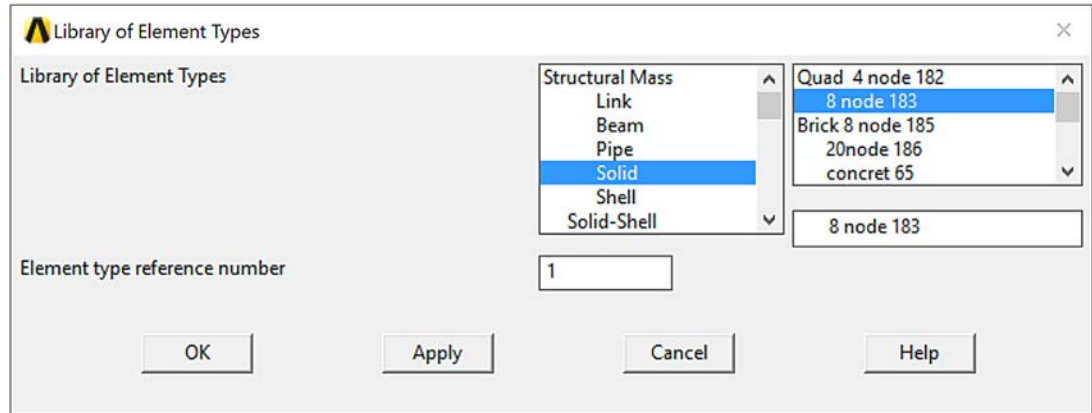

Figure 2-1-7 Defining the Element Type.
- In the left-hand column under “Structural Mass,” choose “Solid” (Figure 2-1-7)